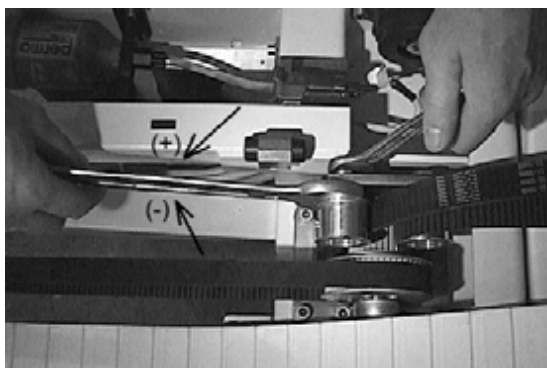

Fig. 39: Horizontal belt drive
- If the travel distance is too small, the belt must be tightened again (+), otherwise it must be released (-). The accuracy should be within ± 0.5 mm. (Fig. 39 / p. 44)
- Adjust the belt tension by turning the eccentric pulley underneath the tabletop. (Fig. 39 / p. 44)